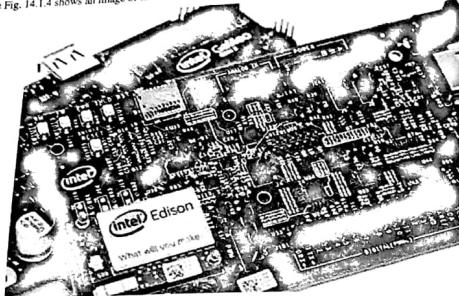

Fig. 14.1.4 : Intel Edison
- The Fig. 14.1.4 shows an image of Intel Edison